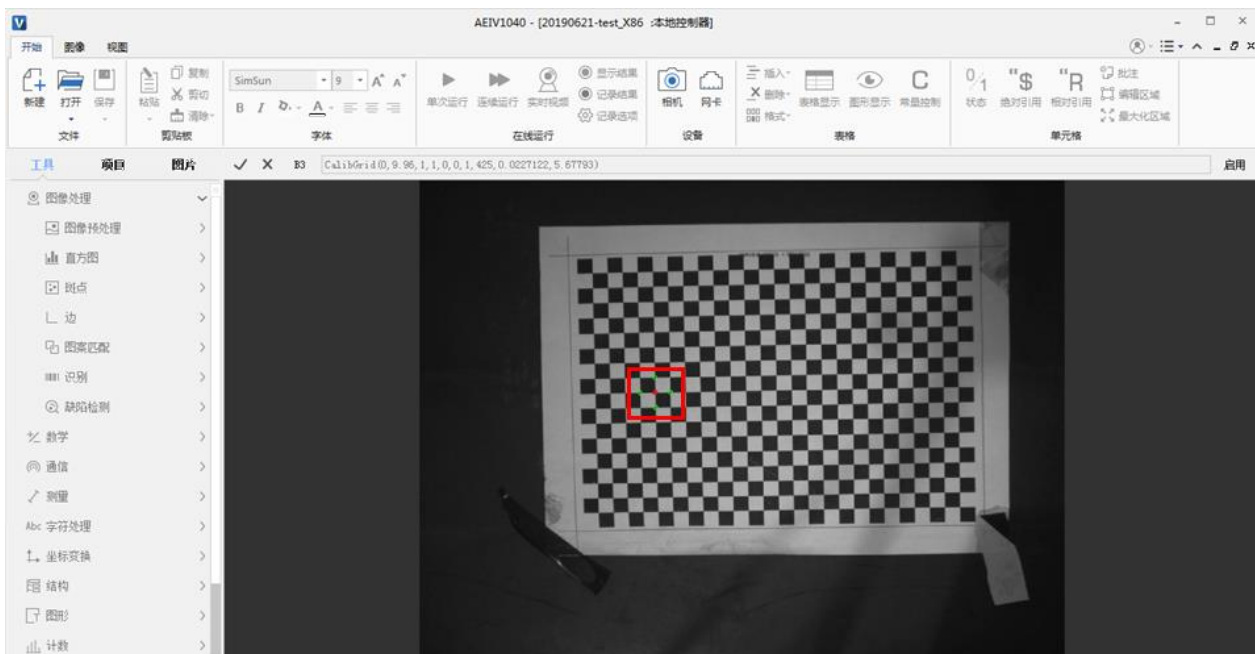

Figure 5-39 Chessboard calibration chart X-axis calibration
Step12. Continue to click <Select X-axis>, the chessboard calibration chart appears (as shown in Figure 5-39). Select one of the four green points as the positive direction of the visual coordinate system X axis (it is recommended to choose the same positive direction as the conveyor belt drive). Continue to click <Select Y-axis> and select the direction of a green dot as the positive direction of the Y-axis of the visual coordinate system. Then click <Calibrate> and <OK> to complete the calibration.